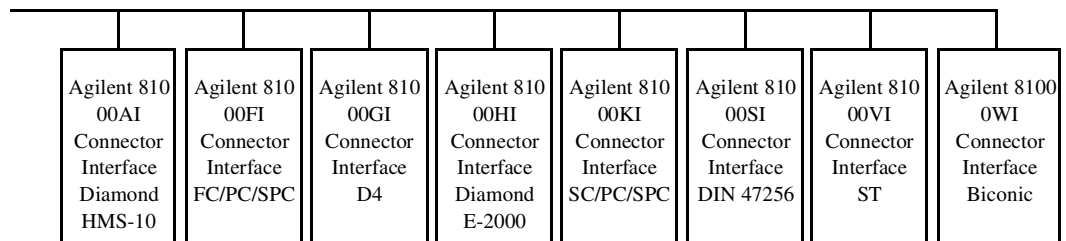

Figure 9 Options 021, 071: Single-mode fiber/PMF with Straight Contact Connectors
- 2 Connect your cable (see Figure 9).